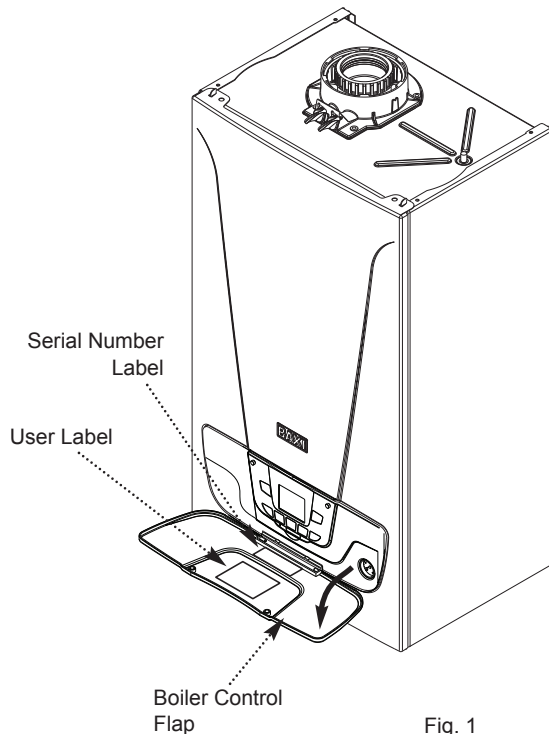

Fig. 1
4. The boiler model, serial number and Gas Council number are also shown on the information label behind the boiler control flap (Fig. 1). This is for user reference.